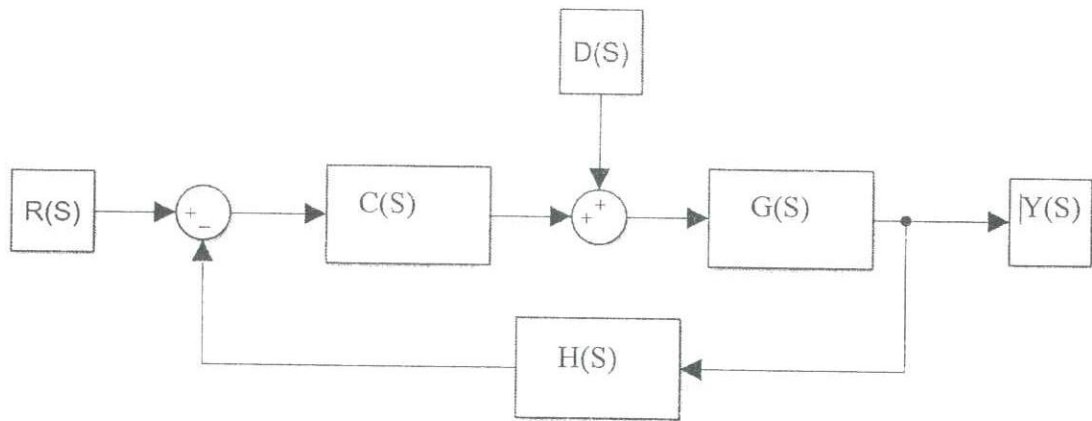

Figure Q1
- Convert the equation (1) into transfer function form in the Laplace domain. (i.e., Obtain $G(S)$.) [1 Mark]
- Figure Q1 shows the above system $G(S)$ with a controller $C(S)$, feedback dynamics $H(S)$, and disturbance $D(S)$. Obtain the expression for $Y(S)$ in terms of $R(S)$, $C(S)$, $D(S)$, $G(S)$, and $H(S)$. [2 Marks]
- g) The system shown in Figure Q1 has $H(S) = 1$ and feels a disturbance of $\frac{2}{s}$ while subjected to a unit step input. The system has a proportional-only controller having a gain of 25. Determine the steady-state error of the closed-loop system. [2 Marks]